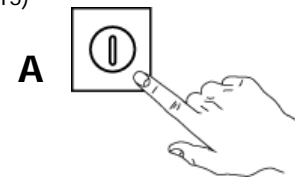

Fig.15
- 4- Close the door and press button "A" to turn ON the machine. Indicator light "C" is ON. (Fig.15)